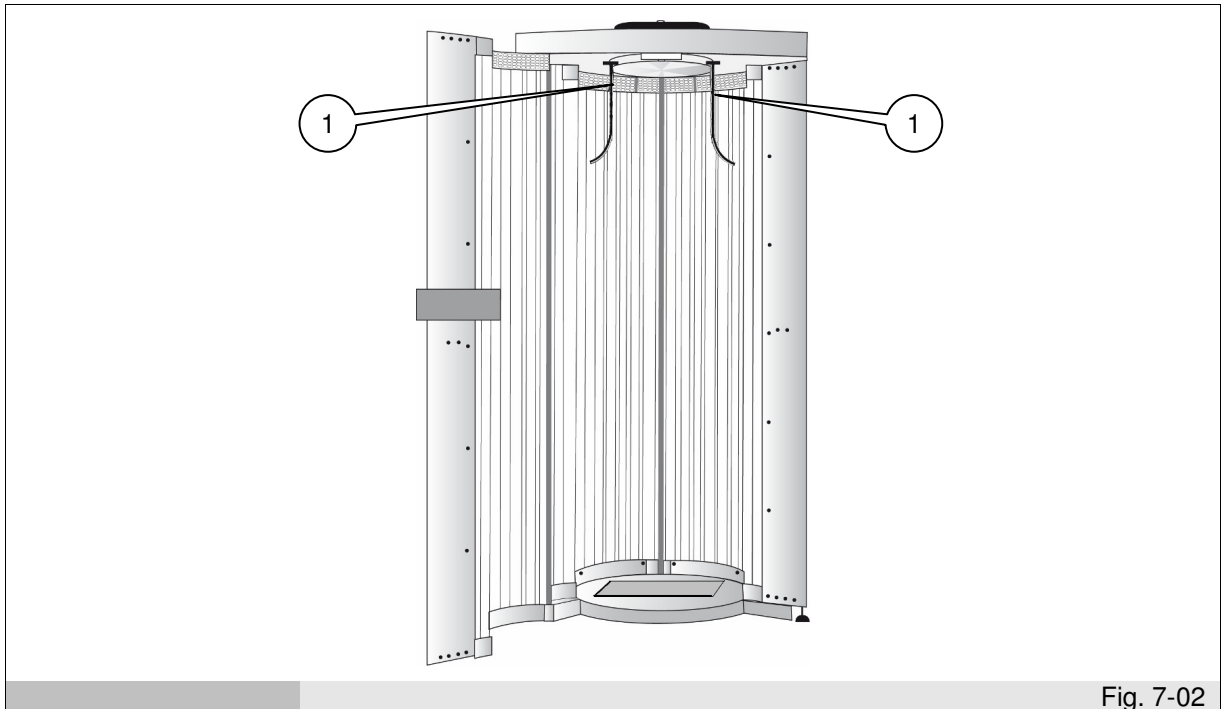

Fig. 7-02
The appliance features support handles (ref. 1 fig. 7-02) inside the cabin. During use, the user is advised to hold onto the handles and avoid leaning against the bulbs' Plexiglas covering.